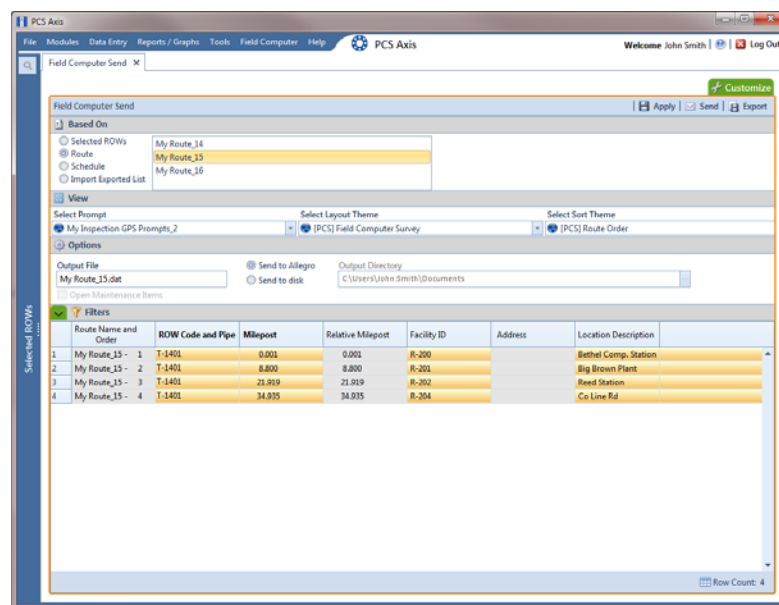

Figure 7-35. Field Computer Send
- 18 Click the **Route** option and select a route in the selection box. Then click  **Apply** to update the grid (Figure 7-35).
- a Click the  **Filters** tab to open the *Filters* panel (Figure 7-35, page 318).